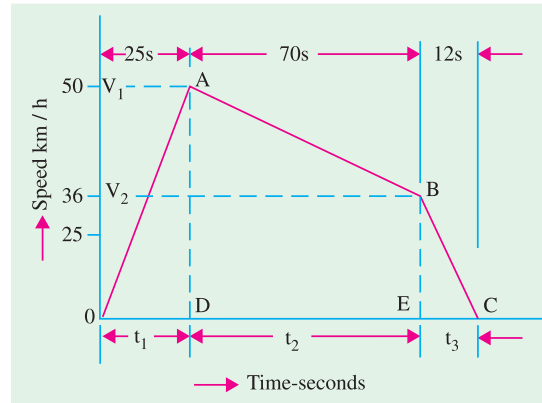

Fig. 43.15
**Solution.** (i) As seen from Fig. 43.15,  $\alpha = V_1/t_1 = 50/25 = 2 \text{ km/h/s}$